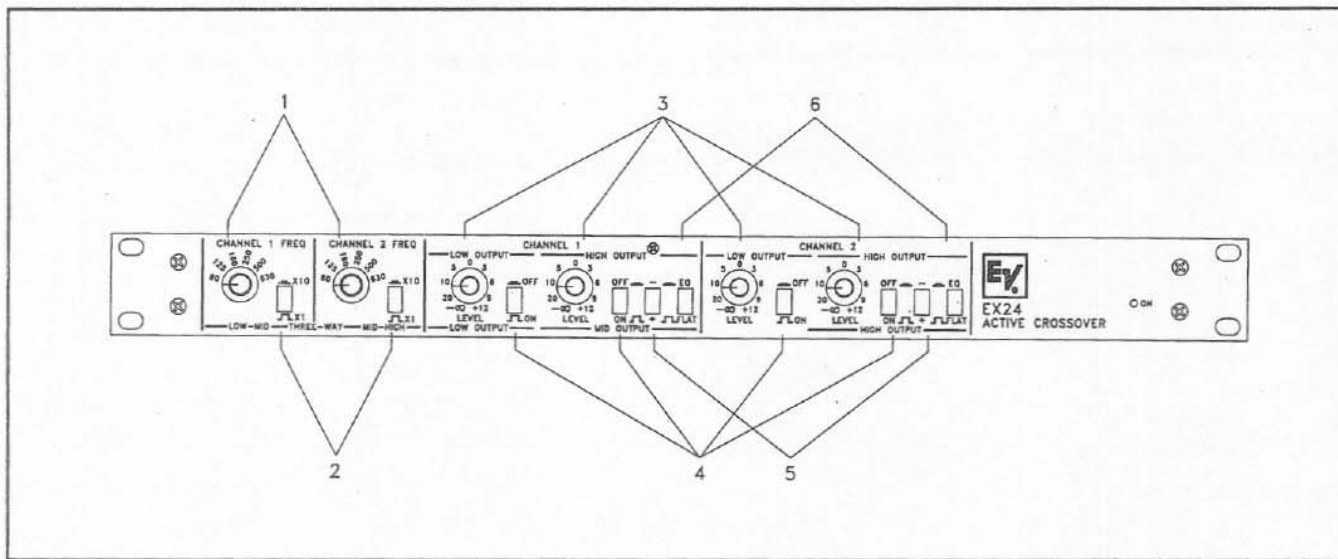

Figure 3: Front Panel Diagram
3.1 Front Panel Controls and Indicators (Refer to Figure 3.)